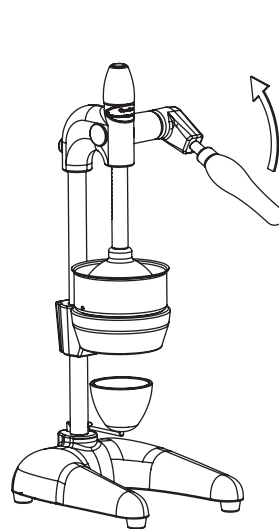
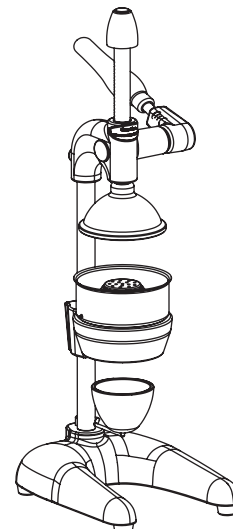

Figure 1
Figure 2
Turn the Arm (09) of your product 1,5 tour around in clockwise **(Figure1)** to create distance between the Strainer (18-45) and the Upper Press (40-51) enough to put the cut fruit in. **(Figure 2)**